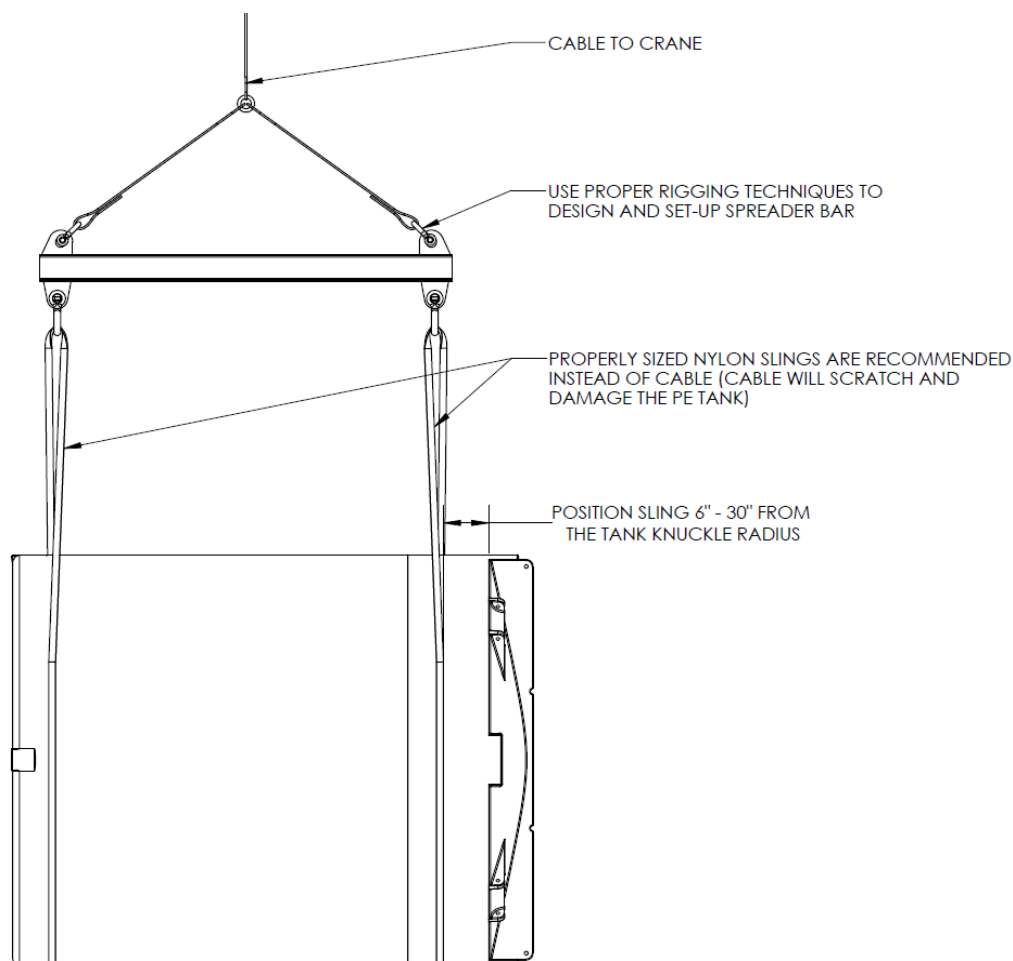

Figure 4.3.2
4.3.2 Tanks should be moved, loaded, and unloaded in a horizontal position with a forklift with protected or rounded fork extensions, or with a crane with a spreader bar and 2 slings of appropriate size positioned on each tank as shown in Figure 4.3.2 NEVER drop a tank off of a truck onto the ground since this may damage the tank and void the tank warranty.